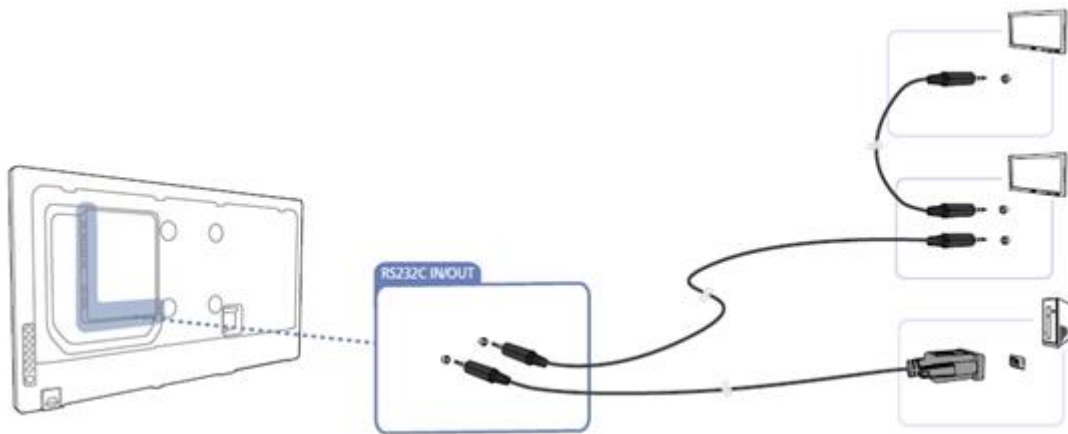

Figure1-1 PC,TV or Monitor connecting method(with RS232)
- As of Figure 1-1, connect RS232-In(9Pin) to Personal Computer,